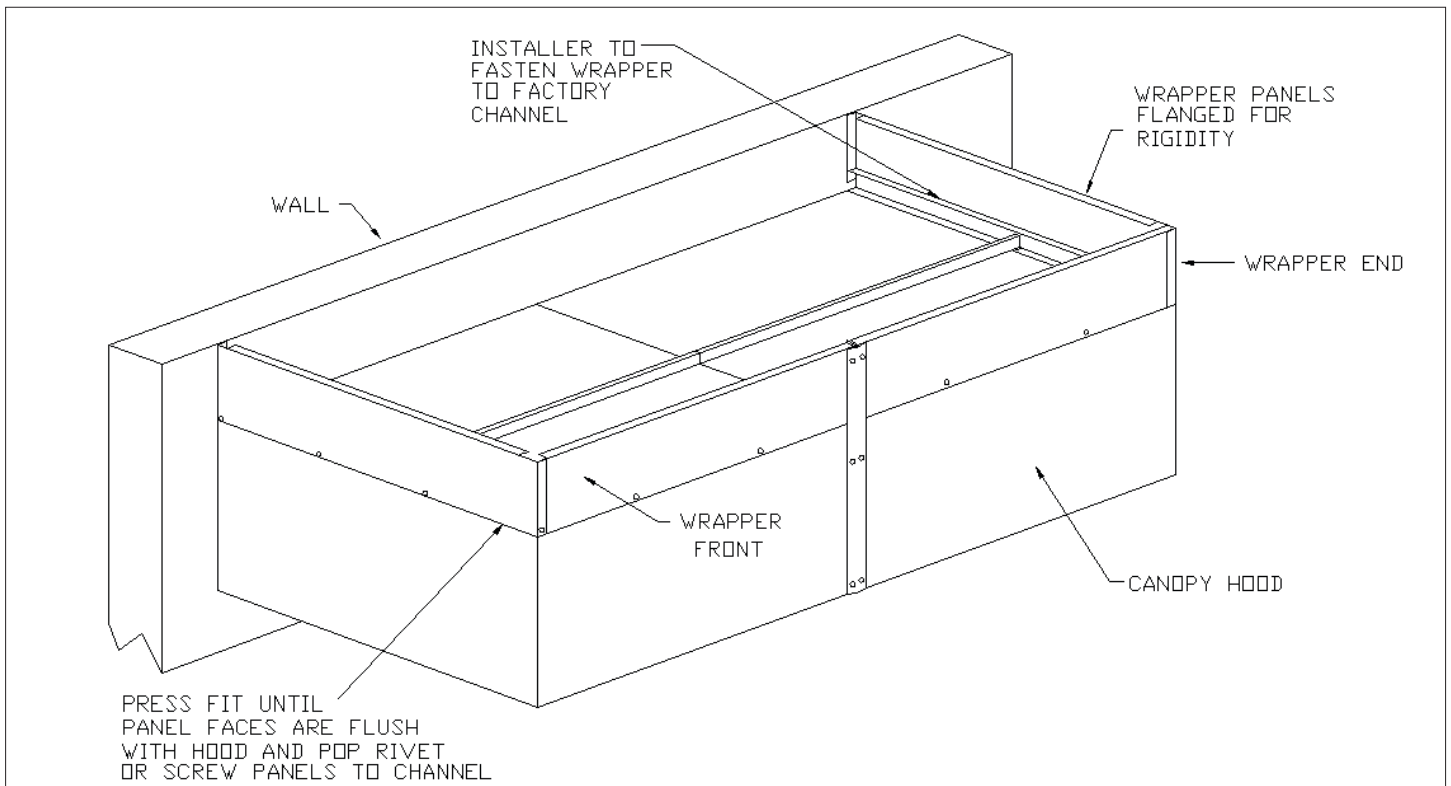

FIGURE 15
6. If multiple panels are used, a stainless trim piece will be provided to attach multiple panels together (i.e. hood is side to side, hood is back to back to another, or the wrapper length exceeds 16 feet). Attach the panels by slipping them behind the stainless trim and fastening with screws or rivets. **See Figure 15. NOTE: Trim will have to be cut to fit. In most instances, trim should extend from bottom of hood to top of wrapper panel.**